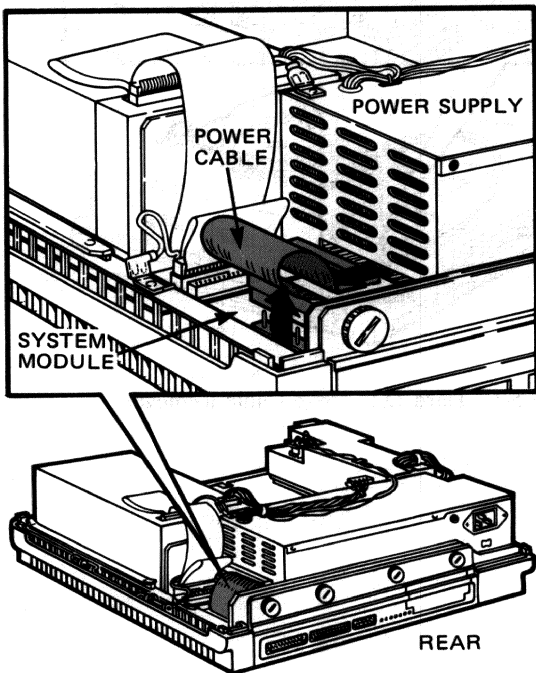

Figure 5-4 Power Cable Removal
5. Unplug the power cable from the power supply (Figure 5-4).
7. Unplug the power cable from the system module (Figure 5-4).